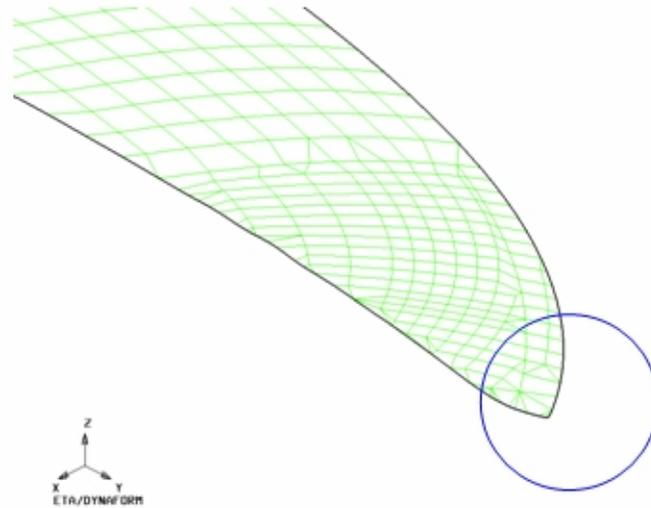

Figure 6.1.27 Sharp Corner
1. After entering the desired corner radius, click on the CORNER SMOOTH button to highlight the boundary line of the part such as illustrated in Figure 6.1.27.